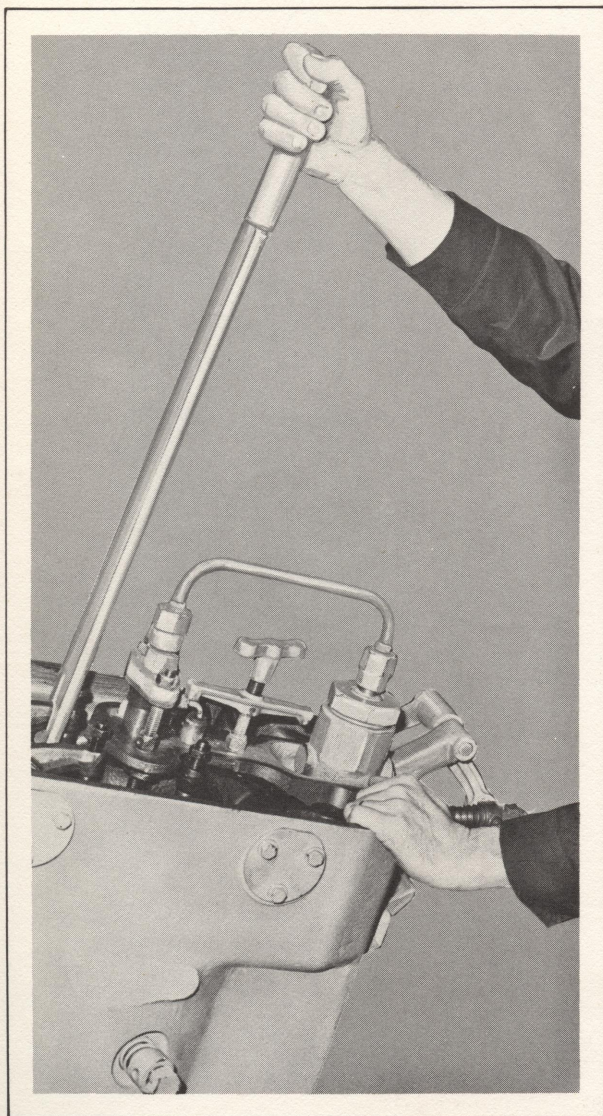

FIG. IX-68. DEPRESSING VALVE SPRING WITH ROCKER ARM DEPRESSOR TOOL.
2. Rotate the rocker arms, using rocker arm depressor, Part 147X1040-1, Fig. IX-68, until the push rods can be inserted into their respective rocker-arm sockets.